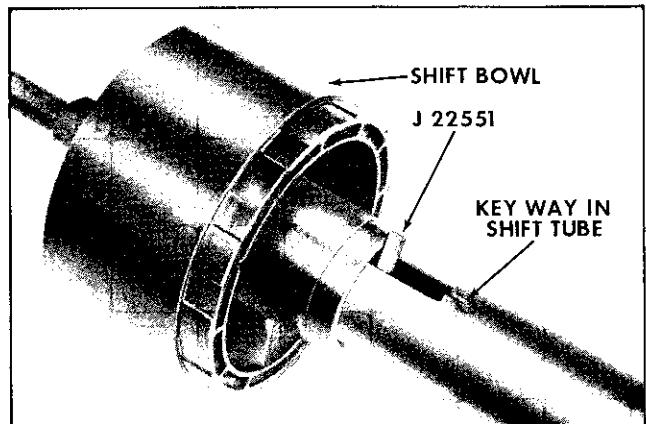

Fig. 9-28 Installing Tool J 22551
19. Remove shift tube assembly from bowl with tool J 22551. Insert the blade end of the tool in the notch of shift tube which is below the bowl key. Pilot sleeve in upper end of shift tube. Force shift tube out of bowl by turning nut (Figs. 9-28 and 9-29). If the shift tube is not completely freed from the bowl when tool J 22551 is removed, finish removal by hand and withdraw shift tube from lower end of mast jacket.
5. Align keyway in shift tube with key in shift bowl and use tool J 22549 to pull the shift tube into the bowl (Figs. 9-28 and 9-29).